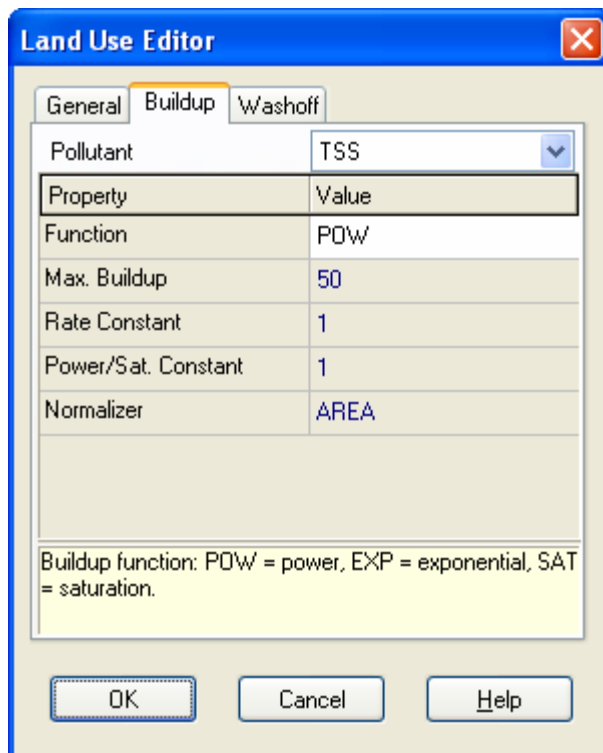

Figure 2-21. Defining a TSS buildup function for Residential land use.
2. In the Land Use Editor dialog, move to the Buildup page (see Figure 2-21).